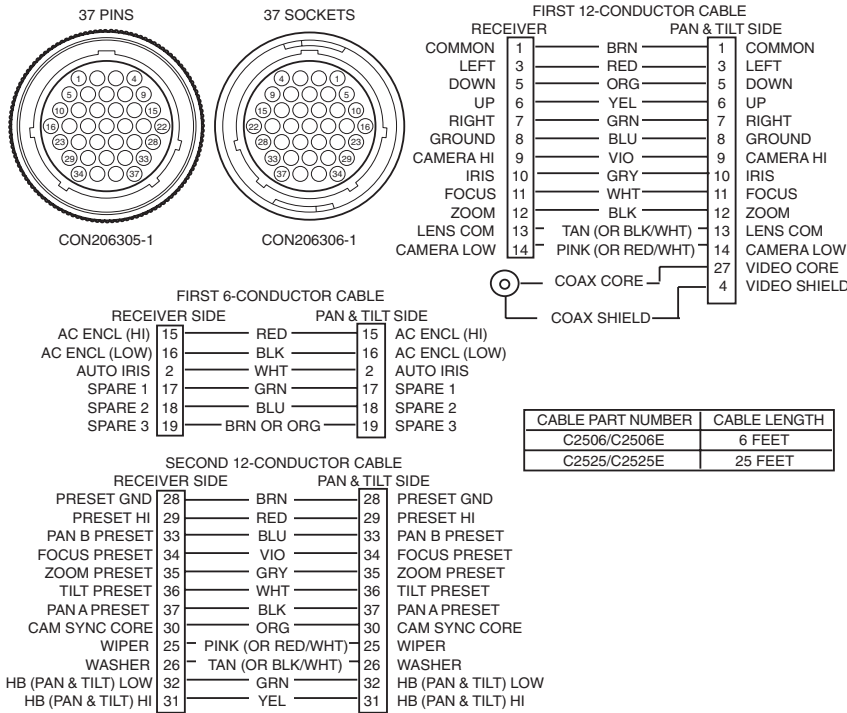

Figure 1. Wiring Diagram
1. If any of the functions do not operate correctly, check the cable wiring (refer to Figure 1).
C934M-F 7/99 Revised Figure 1, added certifications, condensed instructions, and reformatted the manual.